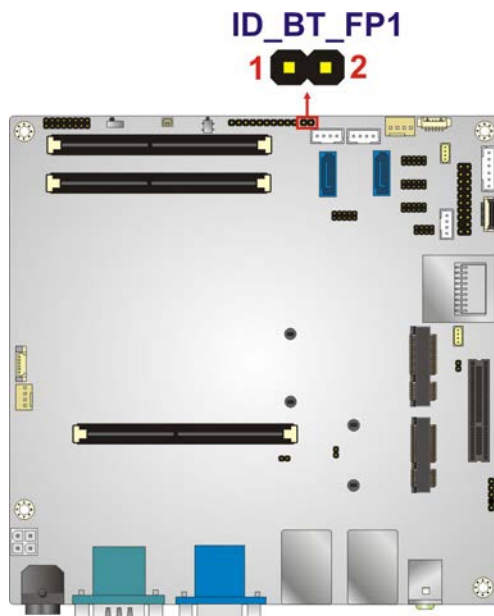

Figure 3-12: IPMI LED Connector Location
- CN Location:** See **Figure 3-12**